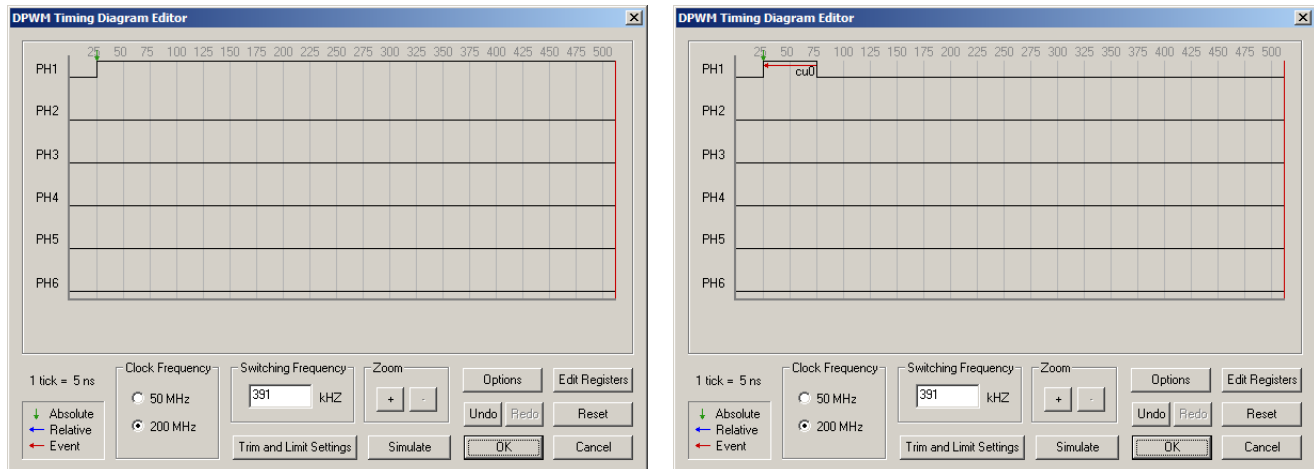

Figure 9. DPWM Timing Diagram Editor - Phase 1
2. To create an absolute edge on Phase 1, hold the mouse above the Phase 1 zero timing line (default) at time tick 25. Then, either double click with the left mouse button or right click at that point and select **Absolute Edge**. An absolute edge at time tick 25 will be created (see Figure 9).
3. To finish the timing for Phase 1, specify hardware modulation using **(Cu0)**. This event edge will be modulated relative to its absolute edge at time tick 25. To create this edge, hold the mouse above the Phase 1 timing line at time tick 75. Either double click or right click at that point and select **Event (Cu0) Edge**. Next, select the edge to reference by clicking on edge 1 in Phase 1. A relative falling (Cu0) edge will be created at time tick 75 since U(n) defaults to 50 (see Figure 9).